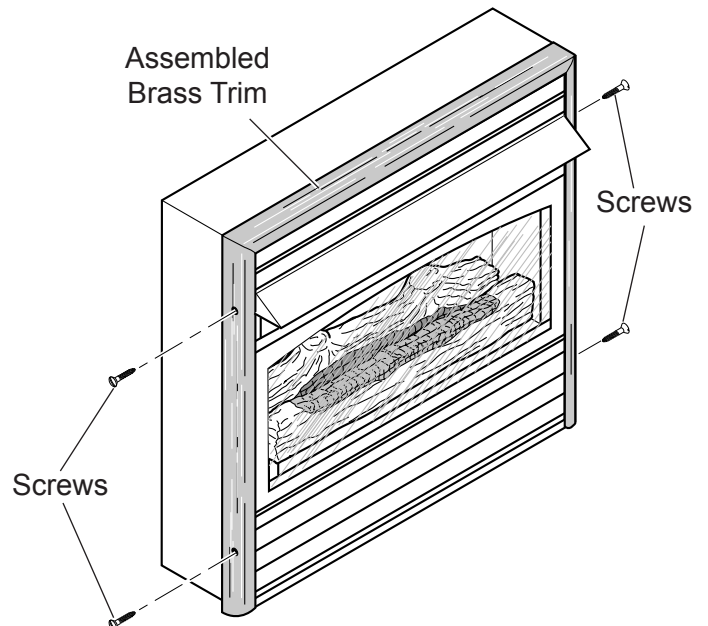

**Figure 4 - Assembling Bras Trim**
1. Remove brass trim from protective packaging. Remove two (2) 90°-angled mounting brackets and two (2) 90°-angled shims.
3. Slide one (1) 90°-angled bracket (with attached screws) and one (1) 90°-angled shim in the outside corner slot where the top and side trims meet. Next, slide another bracket and shim to the inside corner slot. See Figure 4.